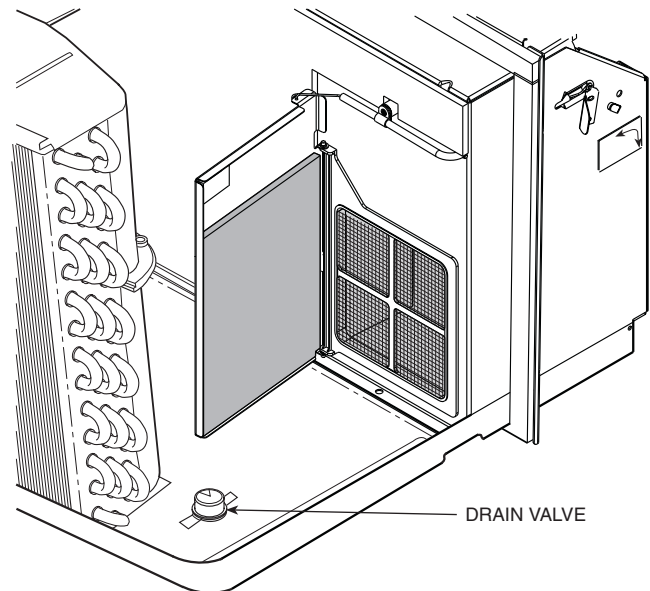

FIGURE 26 — BASEPAN SECTION
6. Thoroughly clean the basepan and drain passages by rinsing with clean water. Be sure all debris is removed from the drain valve. See Figure 26.